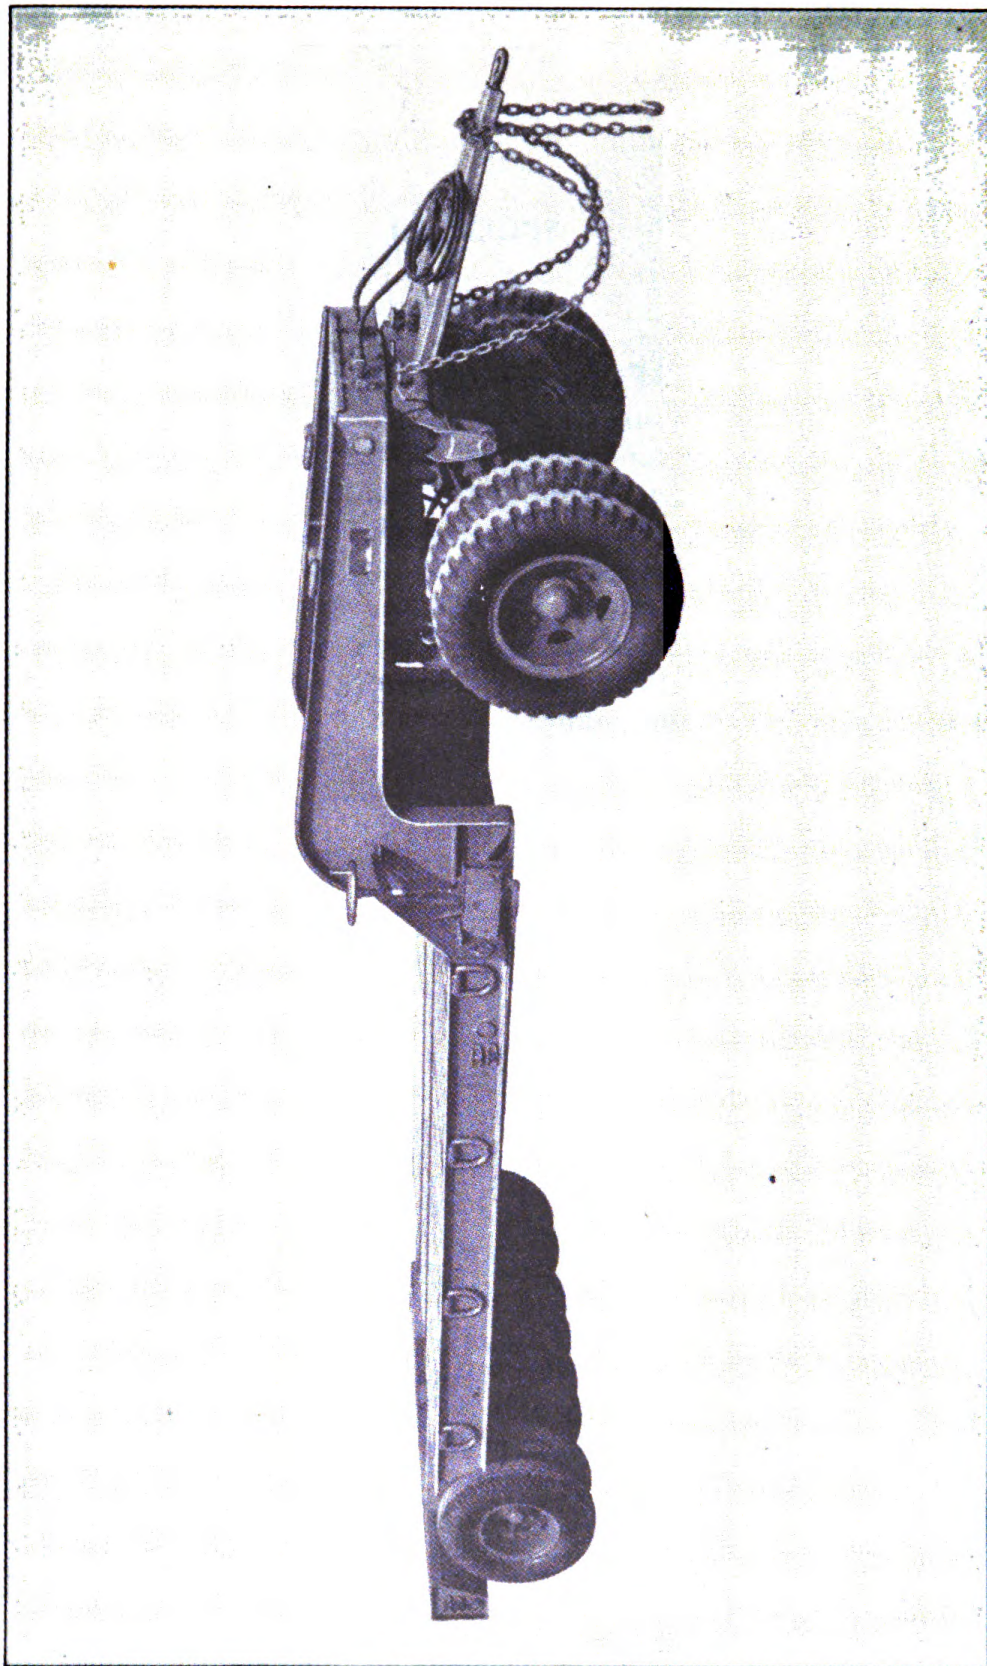

FIGURE 1. 16-TON, LOW BED, PLATFORM TRAILER
a. *Identification.*—(1) This vehicle is illustrated in Figure 1 and it is distinguished by the low drop-frame, and low bed type of platform. The frame is an all-welded unit of pressed and structural steel. A drop forged eye is riveted to a drawbar of pressed steel. Safety chains are attached to the front of the frame. The trailer is mounted on disc type dual wheels at the front and demountable type wheels at rear.